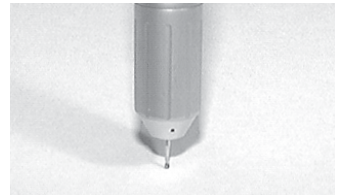

Fig. 12
- 1) As the chuck of the PRESTO AQUA handpiece is a push-in type, set FG burs of $\varnothing 1.6\text{mm}$ and push in as shown in Fig.12